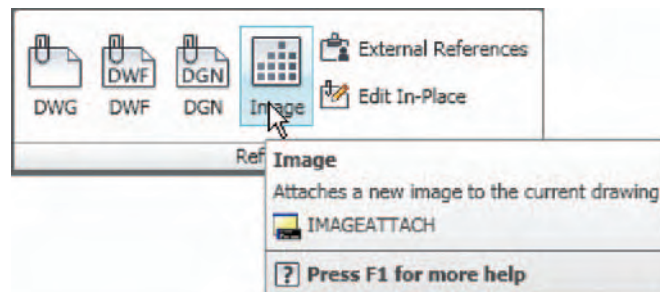
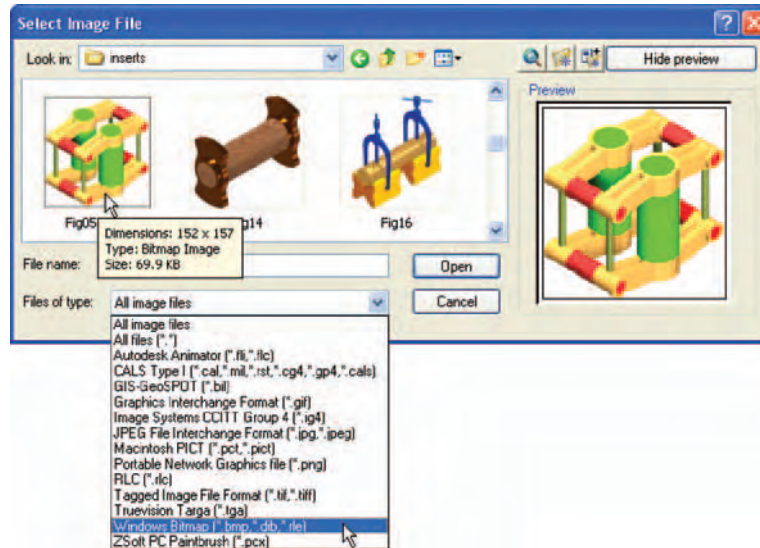
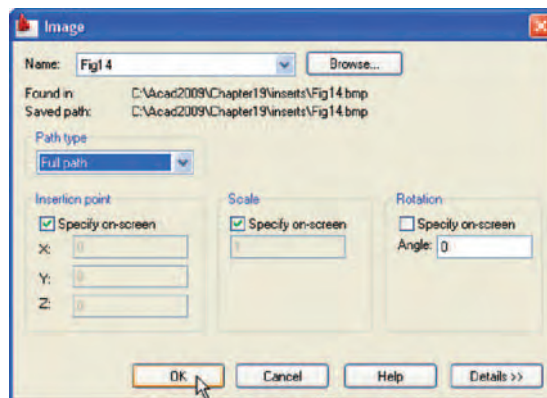

Fig. 19.2 Selecting **Image** from the **Blocks & References/Reference** panel
Fig. 19.3 The Select Image File dialog
Fig. 19.4 Example – Raster image in a drawing – the Image dialog
Raster images are graphics images in files with file names ending with the extensions ***.bmp**; ***.pcx**; ***.tif**; and the like. The types of graphics files which can be inserted into AutoCAD drawings can be seen by first *clicking* on the **Image** icon in the **Blocks & References/Reference** panel (Fig. 19.2), which brings the **Select Image File** dialog (Fig. 19.3) on screen. In the dialog *click* the arrow to the right of the **Files of type** field and the pop-up list which appears lists the types of graphics files which can be inserted into AutoCAD drawings. Such graphics files can be used to describe in 3D the details shown in a 2D technical drawing.
10. Open the **Select Image File** dialog and from the **Look in** field select the raster file **Fig14.bmp** from the file list (Fig. 19.3). Another dialog (**Image**) opens (Fig. 19.4) showing the name of the raster image file.